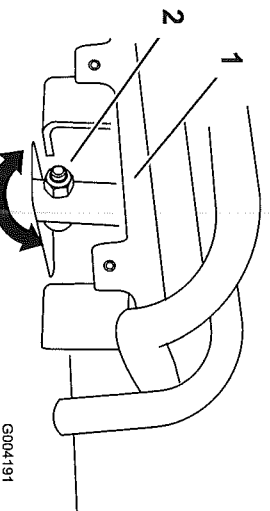
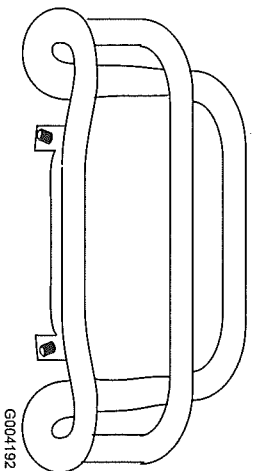

Figure 52
Figure 53
4. If the front of the traction control does not rest square and flush with the reference bar, loosen the flange nut and bolt in the stem of the traction control (Figure 52).
- Adjust the traction control so that it rests flush against the reference bar when it is pulled straight back (Figure 52 and Figure 53).